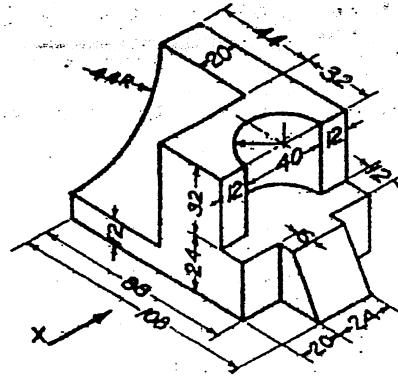

Figure 1
3. Pictorial view of an object is shown in Figure 1. Draw its (a) Sectional front view (b) Side view and (c) Top view. Also dimension the views. [4+4+4]